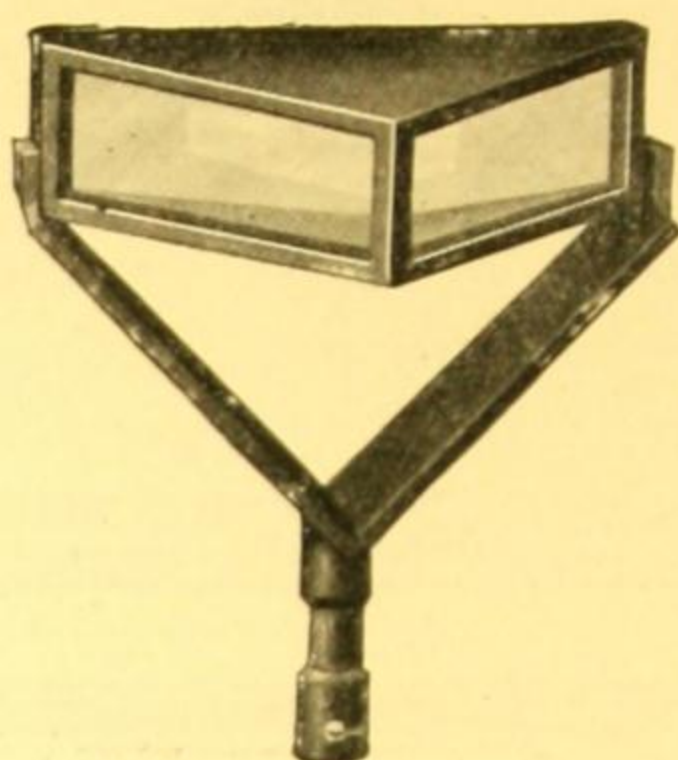

Fig. 106.
- SM 371.—**Prismatic Optical Square**, consisting of a triangular prism in metal mounts with handle. The prism folds down flat for the pocket, when the polished surfaces are protected by metal shields. For more accurately locating the position on the ground a plummet can be attached to the handle..... Fig. 106   £1 1 0